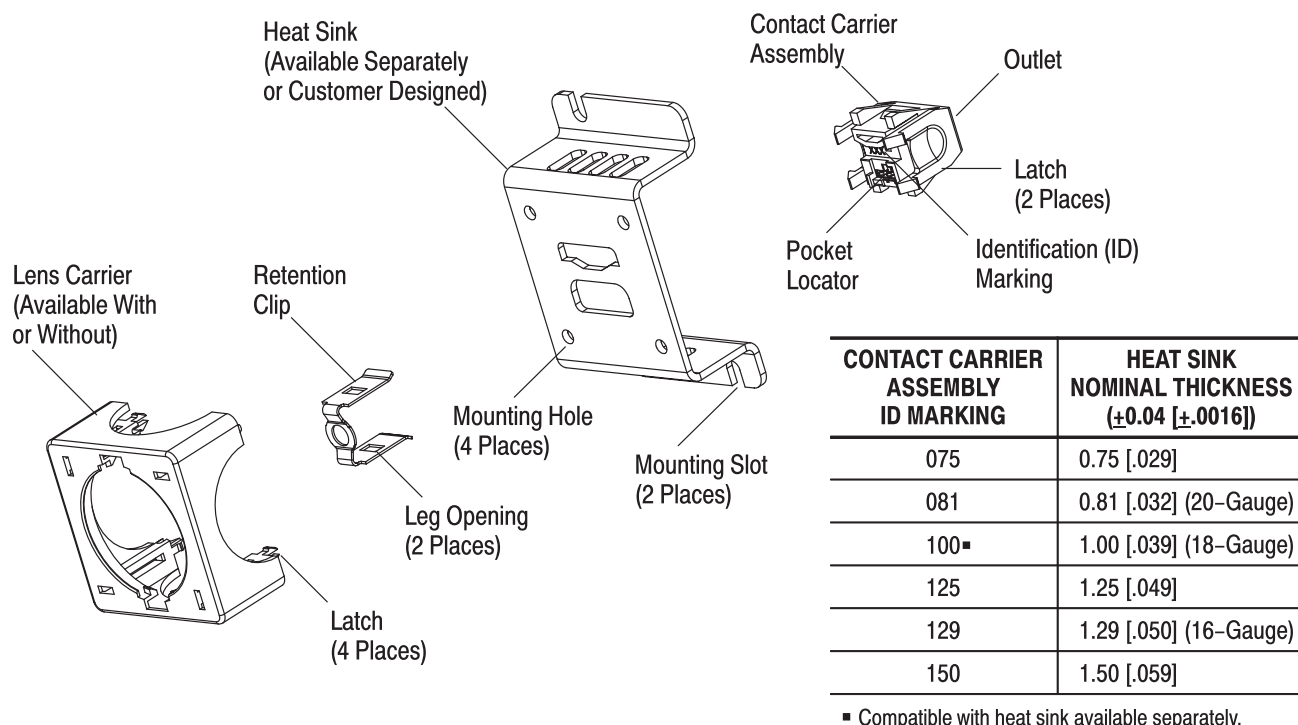

Figure 1
When corresponding with personnel, use the terminology provided in this specification to facilitate your inquiries for information. Basic terms and features of this product are provided in Figure 1.
- Added reference note to Figure 1